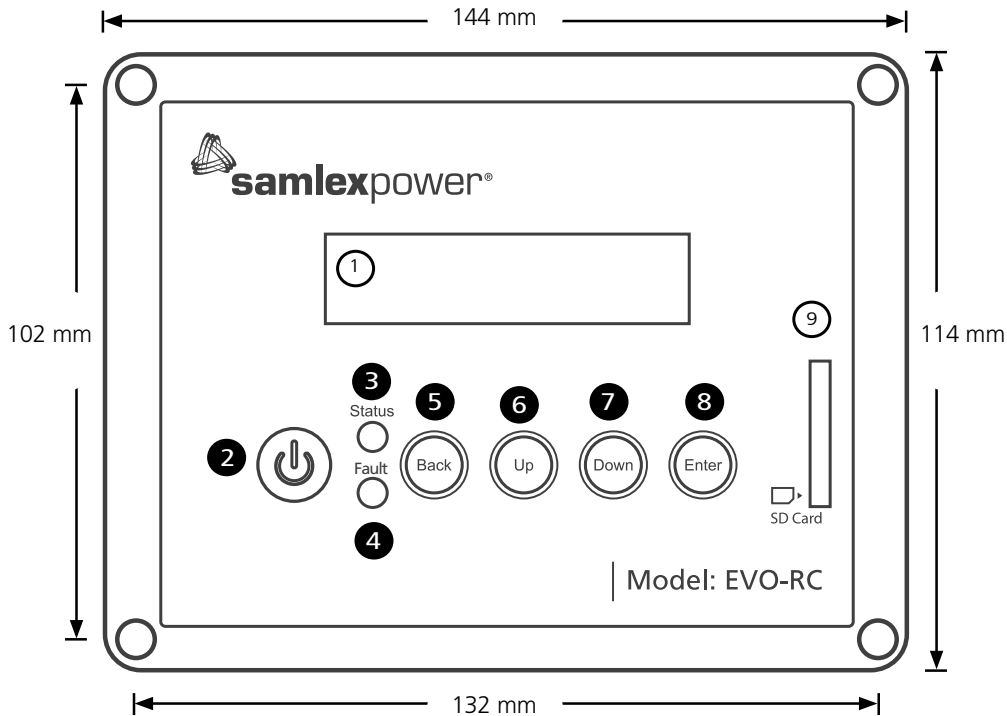

Fig 1.1 Optional Remote Control EVO-RC - Layout & Dimensions
The EVO-RC provides menu items and adjustable settings to configure your EVO™ Inverter/Charger to your specific parameters. Please refer to the layout at Fig 1.1.
b) Please note that this unit is designed to POWER ON AUTOMATICALLY if (i) AC voltage of $70V \pm 5 VAC$ is available at the AC Input Terminals and (ii) DC input voltage is $> 12V$ for 12V versions of EVO™ and $>24V$ for 24V versions of EVO™. If the AC input voltage and frequency are within the programmed limits, the unit will automatically operate in "Charging Mode". If the AC input voltage and frequency are not within the programmed limits, the unit will operate in "Inverting" Mode. Further, as long as AC input voltage $> 70 \pm 5 VAC$ is present, the unit CANNOT BE POWERED OFF using the ON / OFF Button on the front panel of the unit or on the Remote Control EVO-RC. Switch OFF the AC input first if the unit is required to be powered off. However, if the unit is in "Fault Mode", it will be possible to power OFF the unit with the help of the ON/OFF Push Button on the front panel of the EVO™ unit (*11, Fig 2.1 in Owner's Manual for EVO™*) or, with the On/Off Key on the EVO-RC Remote Control (*2, Fig 1.1*)
c) Before proceeding, confirm that the unit is NOT in "Standby" Mode. If it is in "Standby Mode", the "Status" LED (*3, Fig 1.1*) will flash once every 5 sec and the LED screen will display one of the "Standby Mode" Screens show in Figs 3.2 (*Column 2, GROUP 1*). Press the On/Off Push Button (*2, Fig 1.1*) on the EVO-RC to exit the "Standby Mode" to the current operating mode. Refer to Section 3.4 for more details on "Standby Mode".